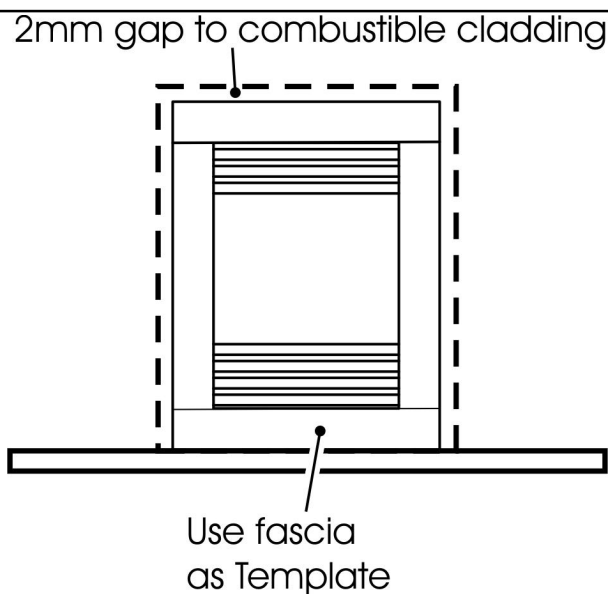

Figure 4. Removal of combustible cladding (Shown with the 'Chic' fascia)
3.17 If the appliance is to be fitted against a wall with combustible cladding, the cladding must be removed from the area covered by the fascia. The cladding must also not touch the fascia (See figure 4). We suggest that the actual fascia is used as a template to mark the area for combustible cladding removal and that this area is increased by at least 2mm all round. Ensure that the depth of the cladding will not prevent the fitting or subsequent removal of the fascia.
The fireplace floor should be reasonably flat to ensure that the hotbox can be installed without it rocking and so that a good seal can be made at the bottom front of the box. The front face of the fireplace should be reasonably flat over the area covered by the hotbox top and side flange seals to ensure good sealing. These faces should be made good if necessary. If the appliance is to be fitted against a wall with combustible cladding, the cladding must be removed from the area covered by the fascia. The cladding must also not touch the fascia (See figure 4). We suggest that the actual fascia is used as a template to mark the area for combustible cladding removal and that this area is increased by at least 2mm all round.